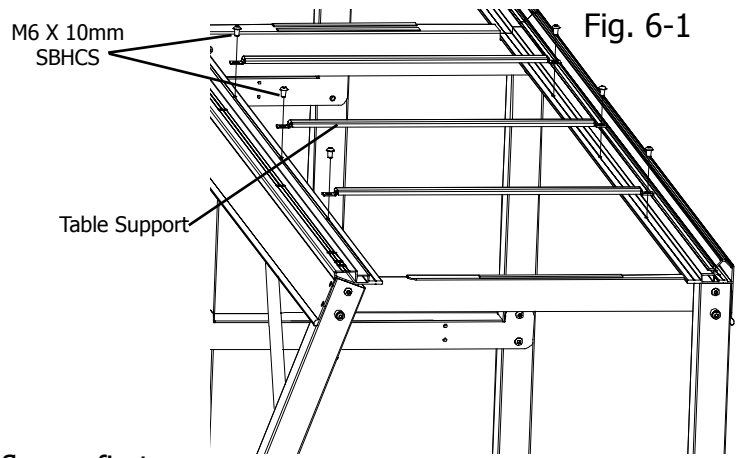

Fig. 6-1
**6-1:** Attach all (6) Table Supports to the Track Supports using (2) M6 x 10mm SBHCS, as shown in Fig. 6-1.